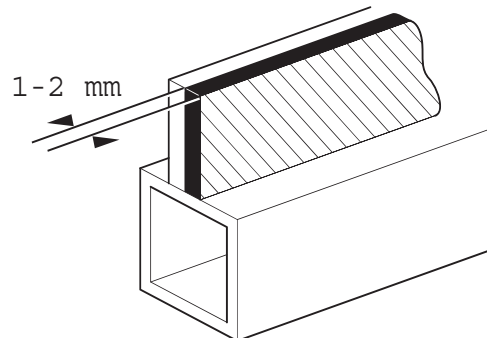

**Fig 4. Craft Knife**
- d** Craft Knife. → Fig 4. (□ B-21). The blades **A** are replaceable.